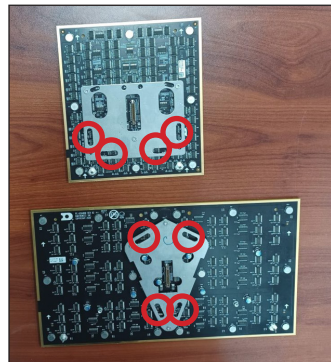

Figure 14: Tethering Slots
2. Note the four 0.203" x 0.750" slots in the magnet plate, as these will be used to secure the tether to the module. There are two different magnet plate shapes depending on the size of the module. Refer to **Figure 14**.